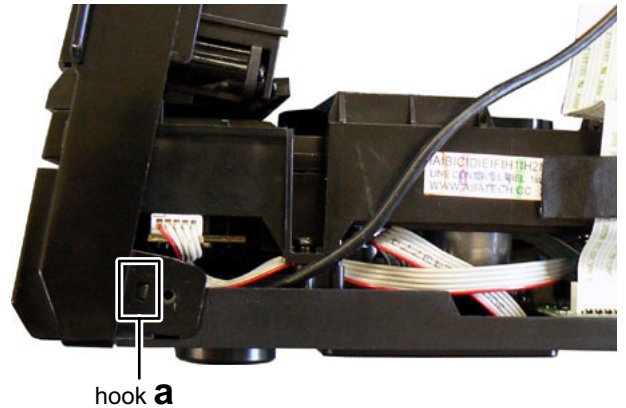

Fig.7
- (3) Disengage two hooks **a** engaged both side of the Front cabinet. (See Fig.7)